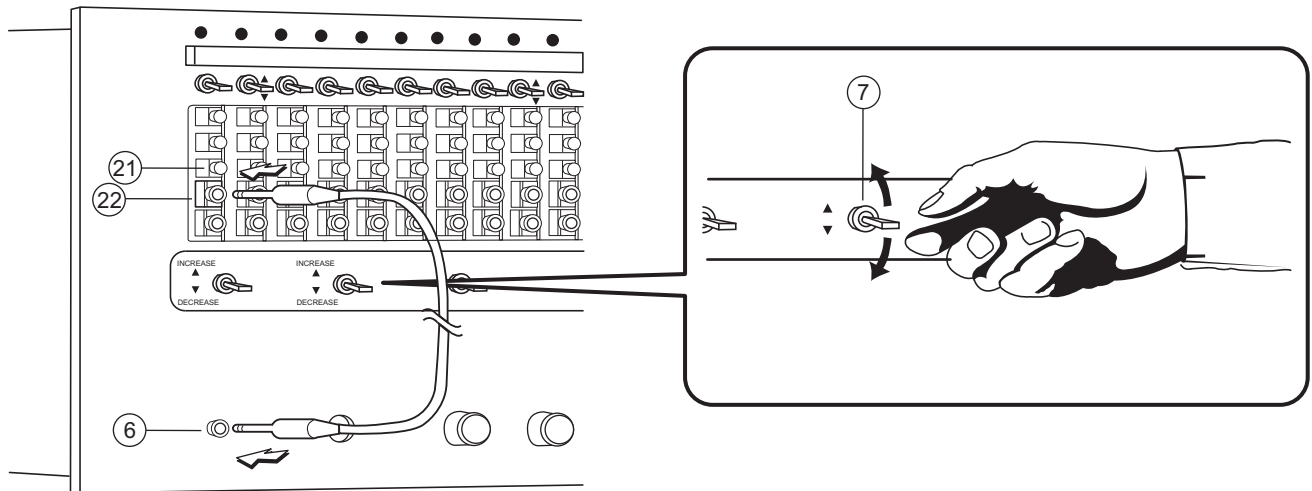

Fig. 16 Setting the audio threshold sensitivity
- a. Connect the cable with a 3.5mm mono plug on both ends (supplied) between the **Audio Alarm Input Jack[6]** and **Audio Alarm Output Jack[22]**. See Fig. 16.